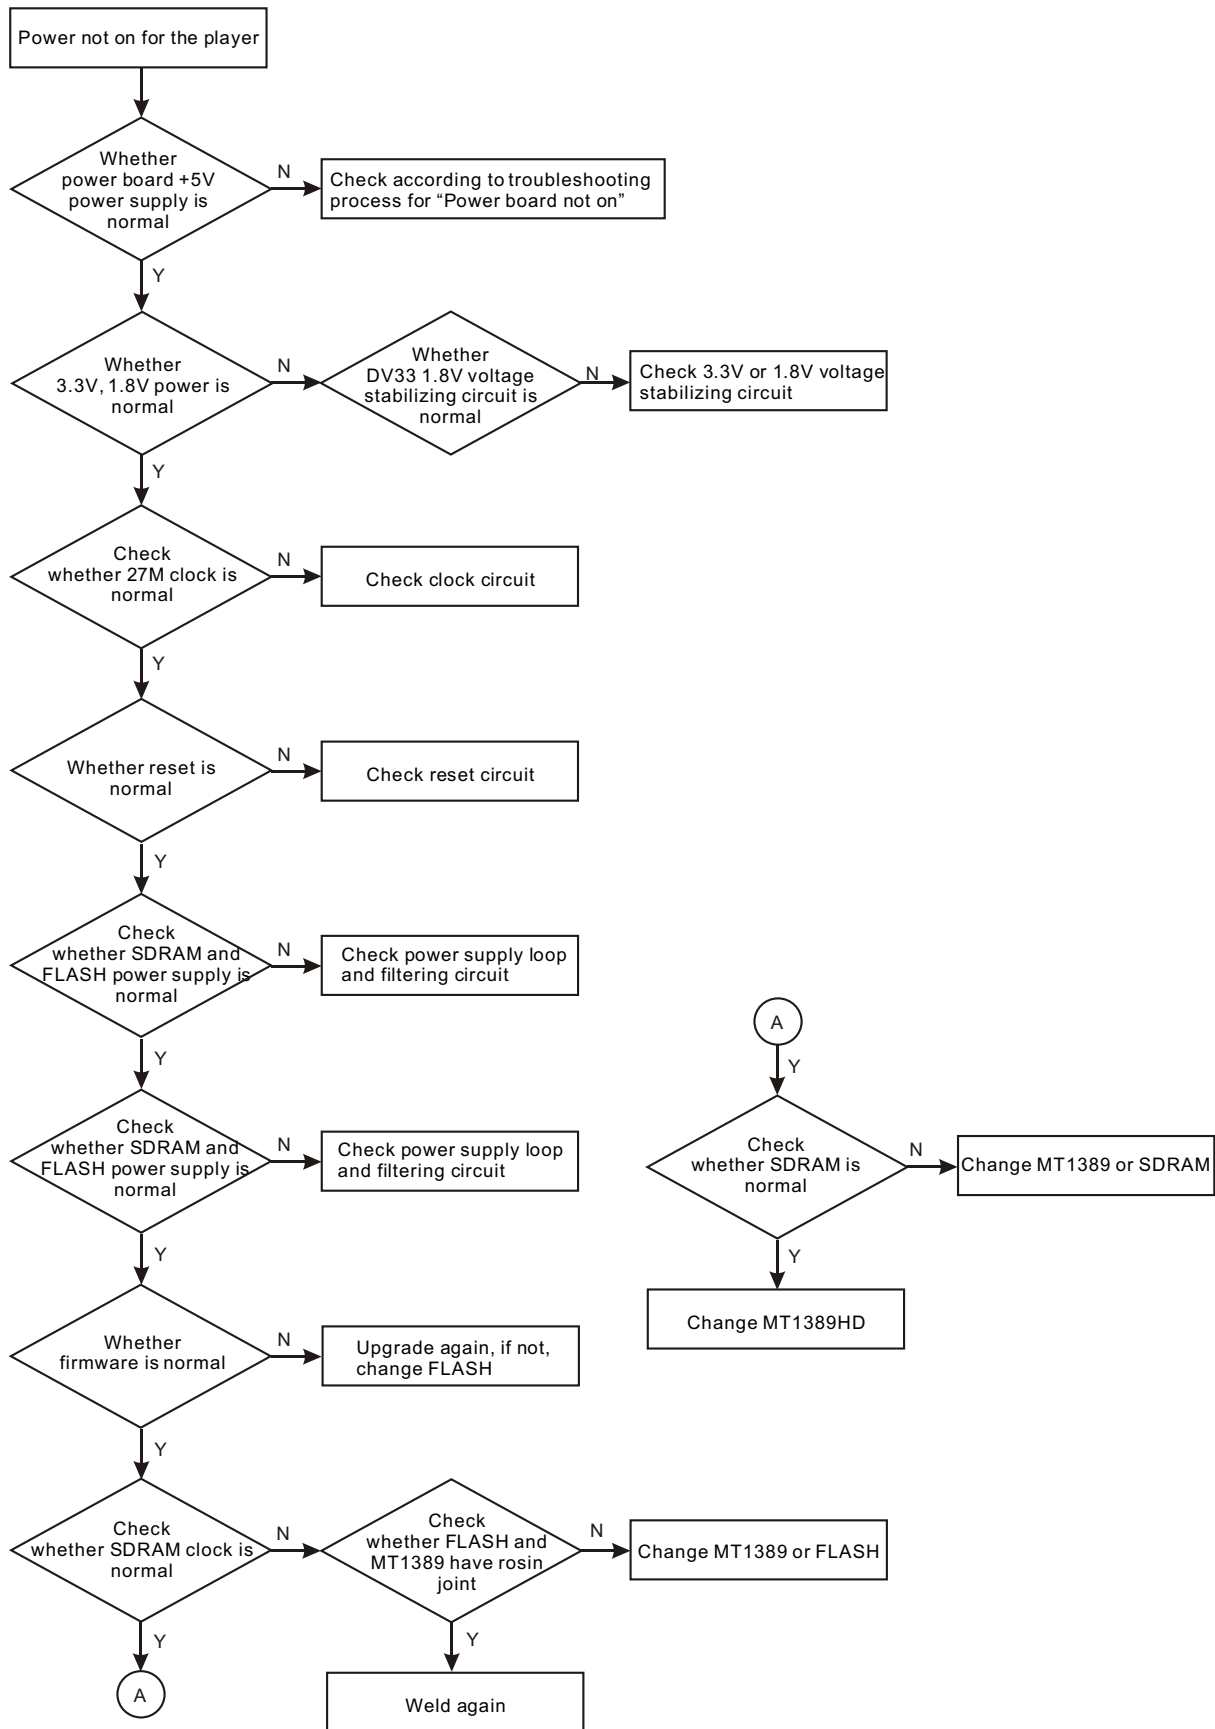

Figure 3.3.2.1 Troubleshooting flow chart for “Power not on”
1. Troubleshooting process for “power not on” is shown in the figure 3.3.2.1: